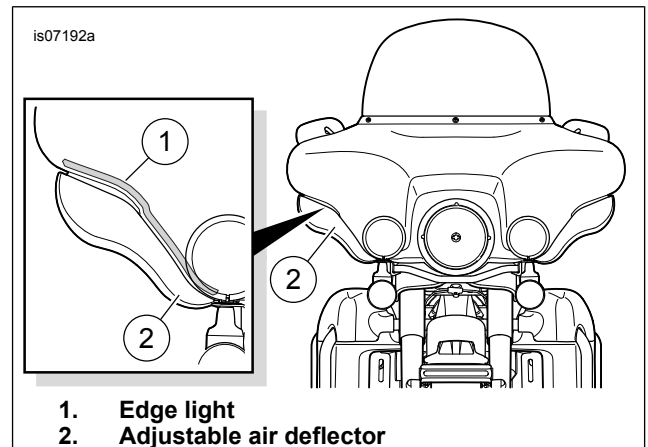

Figure 1. Fairing Edge Lights, Area of Installation
1. See Figure 1. Test-fit the edge lights to the outer fairing before installation. Do not remove the liner until ready to apply the light strips.